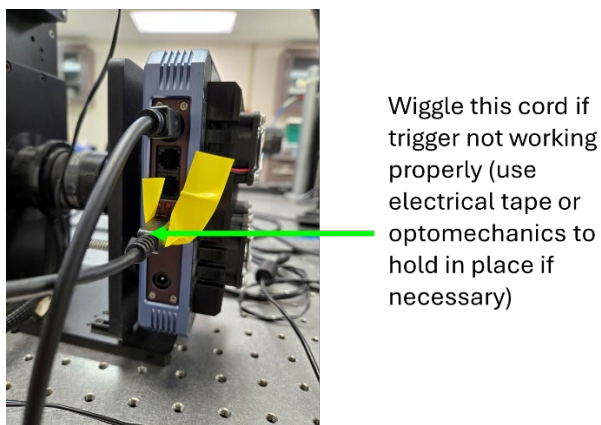

Figure 11. USB cord that connects the ICCD camera to the computer.
- First (10) shots use A = 10- μs delay, B = 490- μs gate
- Second (10) shots use A = 1.5- μs delay, b = 10- μs gate
- If not triggering or you encounter intermediate triggering, wiggle USB cord going into the camera (Figure 11). The camera port is loose, so you need to adjust the cord until it triggers every time. Also verify that you are getting the appropriate counts (they should be around 60,000). If you are not, double-check the alignment (Section 10.1). If that is not an issue, then you need to wiggle the cord again until you get both the proper counts and eliminate any intermittent triggering.